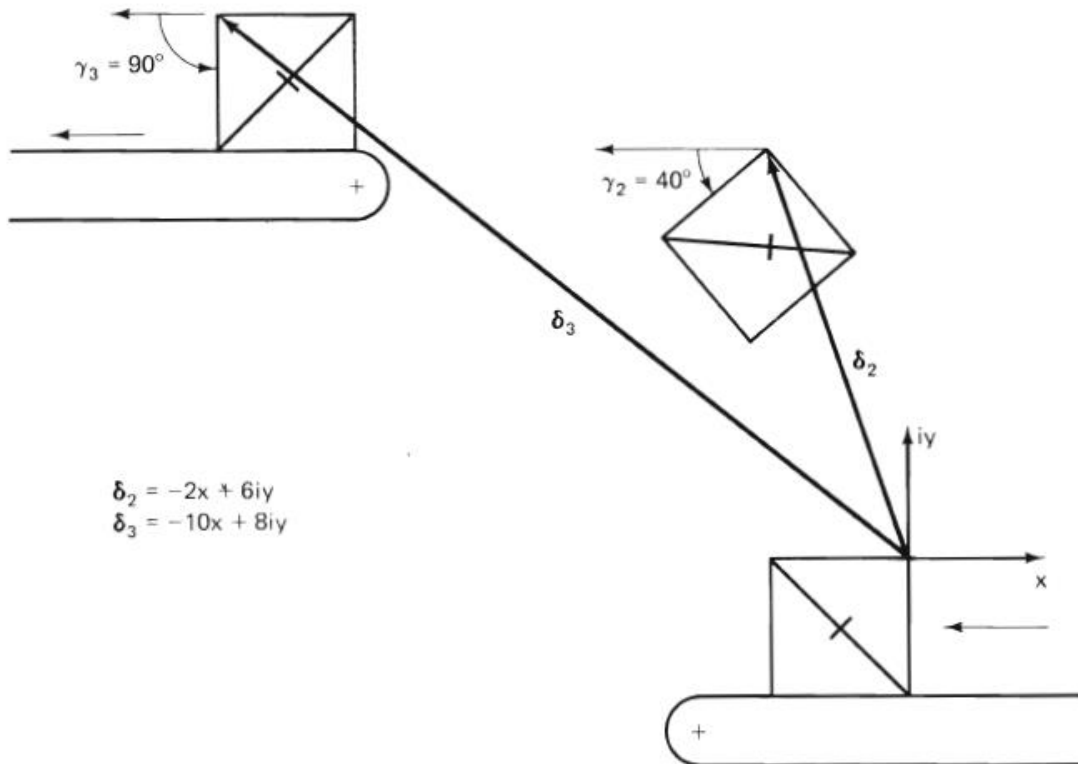

Figure P2.7
- 2.16. As part of an automation process, a four-bar linkage must be designed to remove boxes from one conveyor belt and deposit them on an upper conveyor belt as shown in Fig. P2.7 (three prescribed positions). Both ground and moving pivots must be located between the upper and lower conveyor belts.